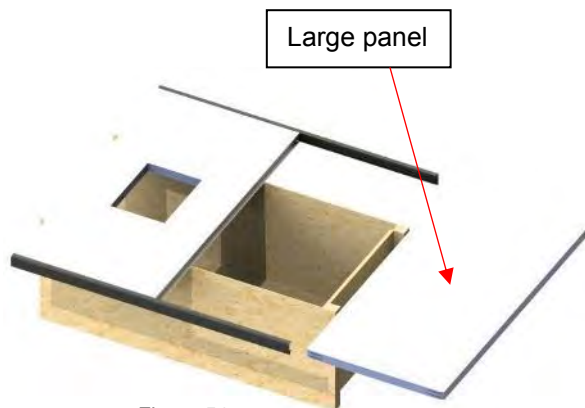

Figure 54
- 10) Slide the large (approx. 47 in. x 96 in. (119 cm x 243 cm)) panel into the C-channels. Ensure the I-beam has slid over the panel on both the bottom and top side (Figure 54).